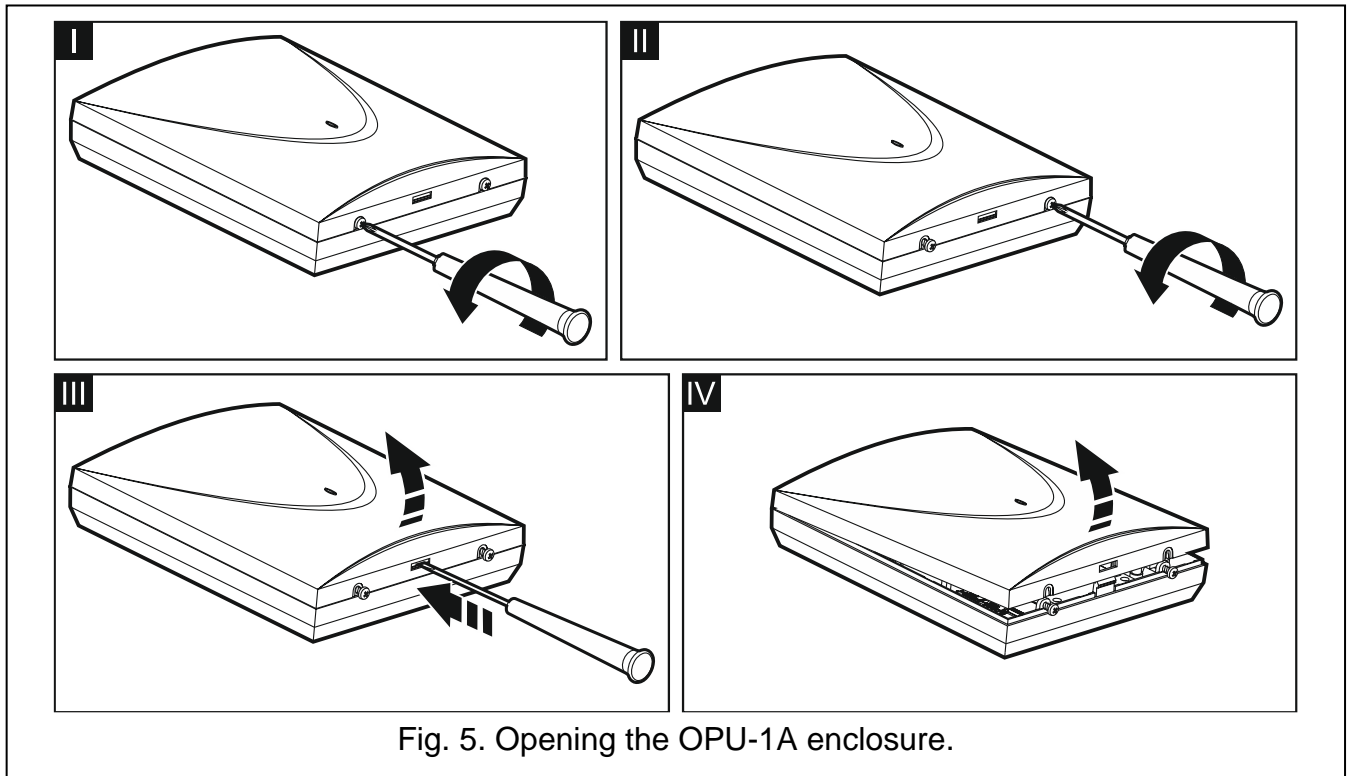

Fig. 5. Opening the OPU-1A enclosure.
1. Loosen the screws locking the enclosure cover and remove the cover (Fig. 5).